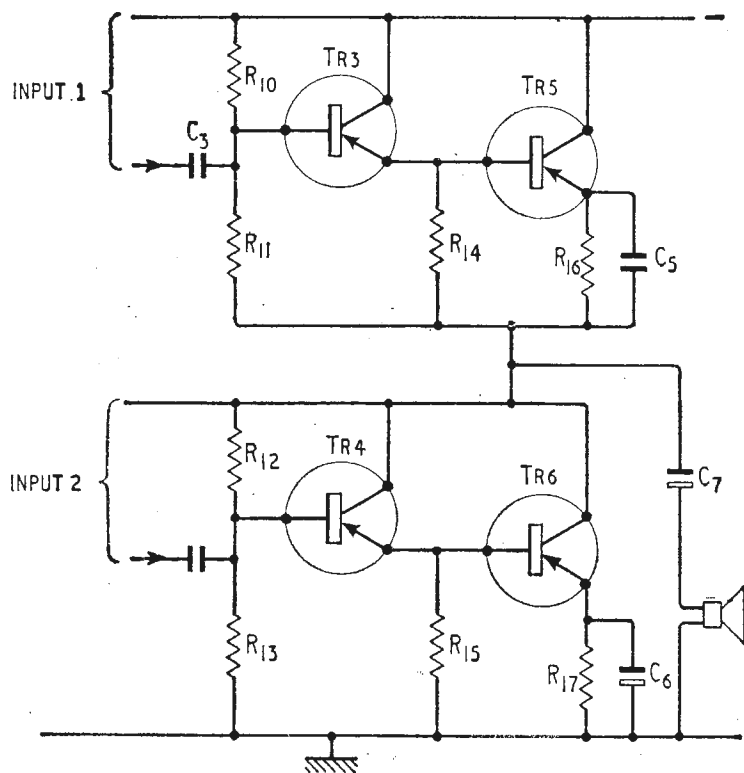

Fig. 6. Class-AB output stage with capacitance-coupled load.
**T**HE Class-AB circuit discussed previously is re-arranged as a transformerless circuit with capacitance-coupled load, as shown in Fig. 6. The output transistors require to be driven from a low-impedance source and hence the driver transistors are used in emitter-follower configuration to simplify the design of the preceding phase splitter (otherwise a high-power phase splitter will be required).
In Fig. 6 resistor  $R_{16}$  decoupled by capacitor  $C_5$  together with potential divider resistors  $R_{10}$  and  $R_{11}$  define the emitter current and collector-to-emitter voltage of the output transistor  $Tr_5$  so as